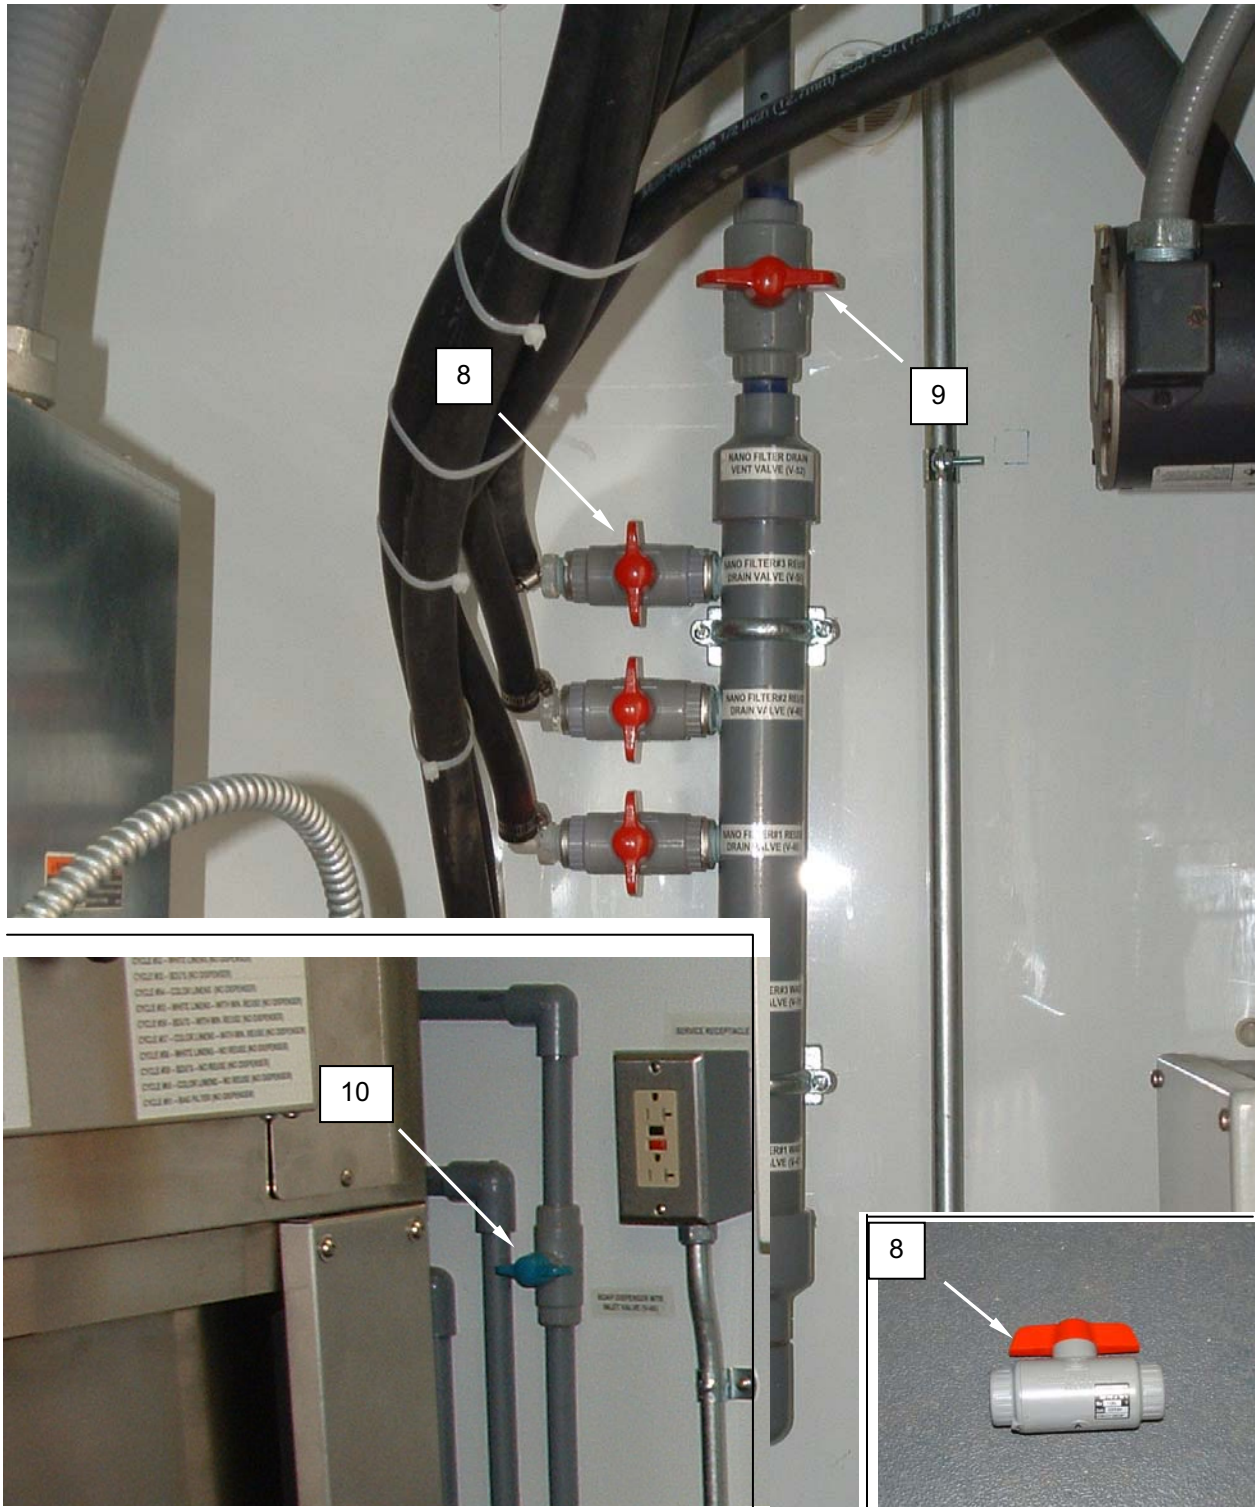

Figure 4. Replace PVC Hand Operated Valves and Check Valves.
3. Unscrew or cut out damaged CPVC valve (**Figure 4, Item 8**) as required.
Valves V-52 (**Figure 4, Item 9**) and V-60 (**Figure 4, Item 10**) may require the installation of a coupling and an additional 2-inch section of PVC pipe for installation.
5. Install replacement CPVC valve (**Figure 4, Item 8**) and fittings as necessary, and cement in place.